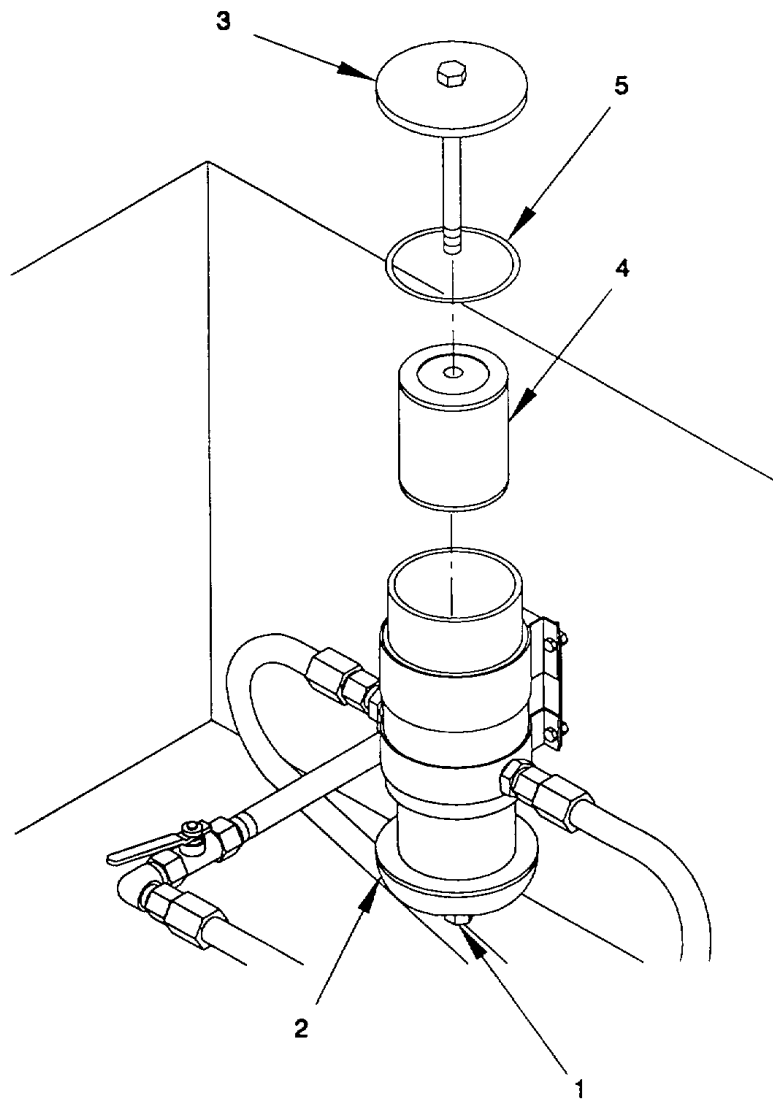

Figure 2-43. Fuel Water Separator, Service
a. *Service.* (figure 2-43)
- (1) Loosen the vent plug in the top lid (3) to break the vacuum within the unit. Remove drain plug (1) and drain water and contaminants from collection bowl (2).
- (2) Replace drain plug (1).
- (3) Remove lid (3) from fuel water separator.
- (4) Remove filter element (4) from fuel water separator by slowly pulling upward with a twisting motion on the molded handle.
- (5) Apply a coating of clean fuel to the seal of the new lid gasket (5).
- (6) Install new filter element (4) in fuel water separator.
- (7) Fill the fuel water separator with clean fuel.
- (8) Install lid (3) on fuel water separator and tighten snugly by hand (10 ft.-lbs. maximum).